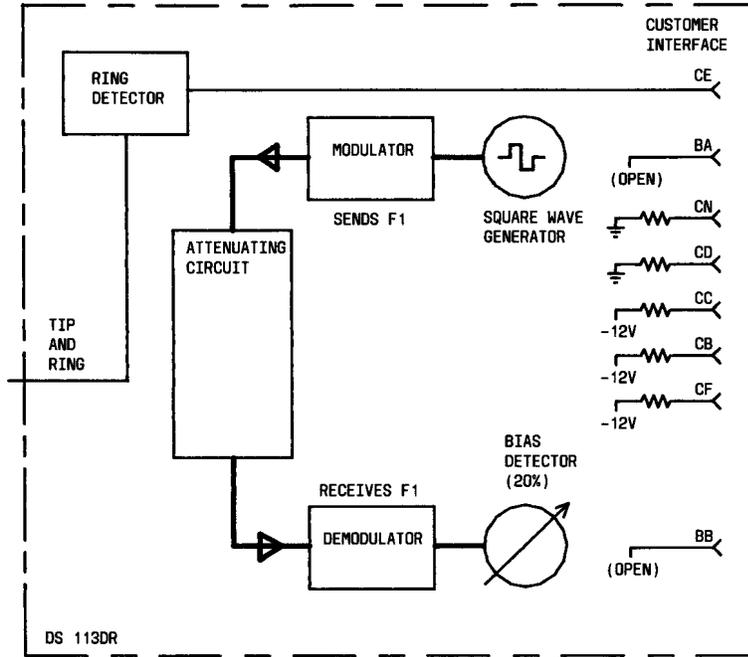

Fig. 2—Local Self-Test Mode
2.08 Depressing the ST button causes the following to occur (Fig. 2):
2.09 In the local self-test mode (Fig. 2), the data set goes through the handshaking sequence. The square wave signal is applied to the transmitter, looped through an attenuating circuit to the receiver, and the demodulated signal is checked by the bias detector. In this way, most of the circuits of the data set are checked. The MC lamp goes off after a short delay if the bias of the received data signal is under 20 percent. All other lamps except TR are lighted, indicating proper operation of the set.